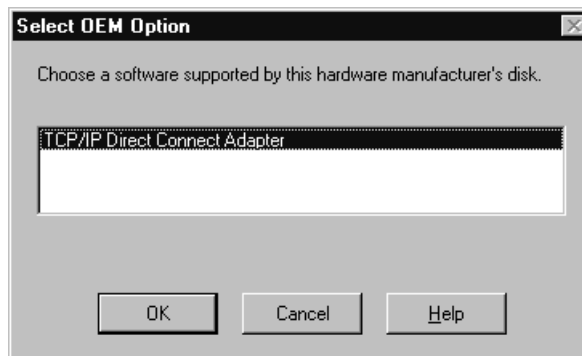

Figure 5-15. Select OEM Option
6. The Select OEM Option dialog (Figure 5-15) will display TCP/IP Direct Connect. Click **OK** to install the driver.